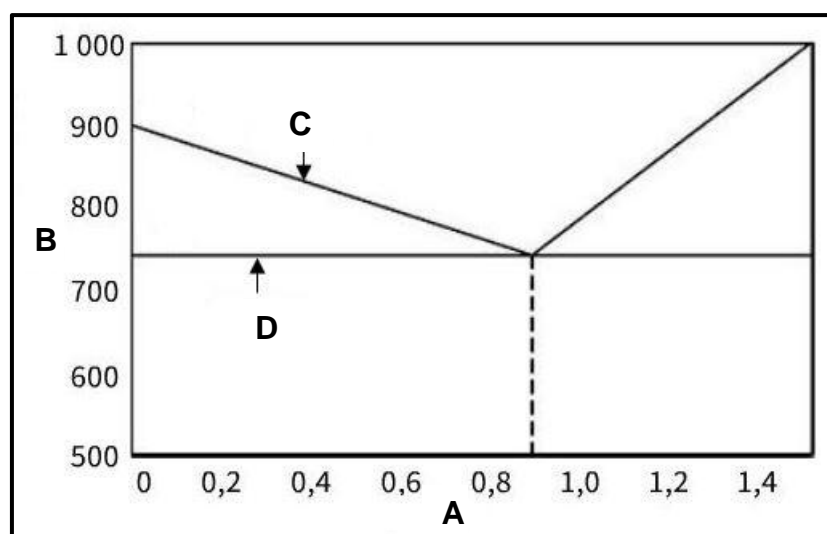

FIGURE 3.5
- 3.5 In FIGURE 3.5 below the iron-carbon equilibrium diagram is shown. Label the diagram as indicated, from **A** to **D**. Write down only the answer next to the letter (A–D) in the ANSWER BOOK. (4)